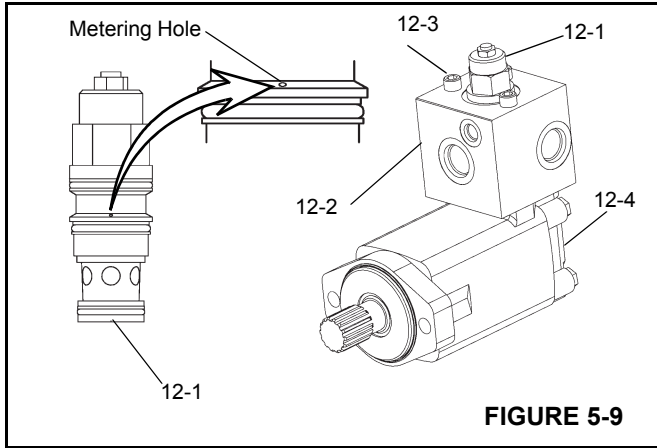

FIGURE 5-9
3. Remove the counterbalance valve (12-1) from the counterbalance block (12-2) and inspect the small metering hole located on the side of the cartridge valve to make sure it is not obstructed (Figure 5-9). Also inspect the O-rings to insure that they are not cut or flattened.